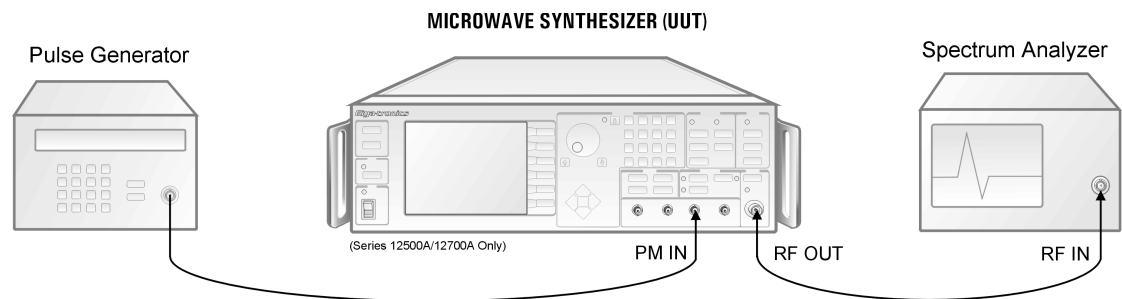

Figure 4-8: Pulse Modulation On/Off Ratio Test
1. Connect the equipment as shown in Figure 4-8. Allow 30 minutes warm-up time.
2. Enter the first frequency on the test data sheet within the frequency range of the instrument. The RF power level should be at 0 dBm. Select external pulse modulation (PM) on the 12000A.